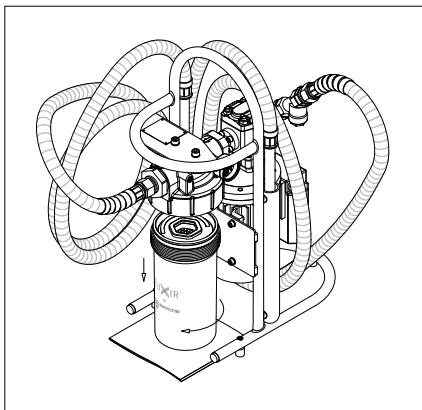

fig. 12
- For the disassembly and the assembly of the parts, please see fig. 12 to 15
- (Fig. 12) Unscrew the filter bowl after placing a protection from operating fluid dripping